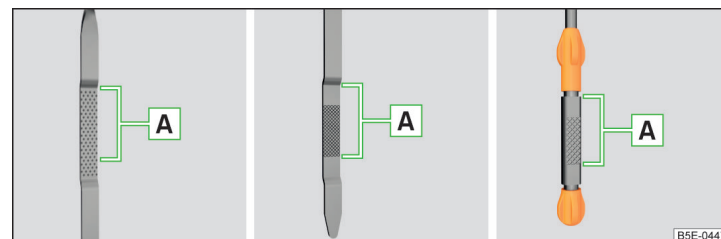

Fig. 180 Principle sketch: Dipstick
Dipstick » Fig. 180
- The oil level must never be above the **A** range » Fig. 180 – there is a risk of damaging the exhaust system!
- If the oil level is above level **A** » Fig. 180, , do not continue to drive! Switch off the engine and seek assistance from a specialist garage.